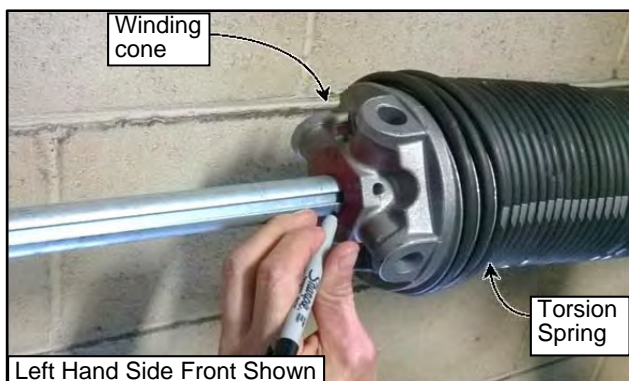

Figure 56
4. With the cables still tight on the drums & the Torsion Springs still mounted on the shaft, mark the drums and torsion shaft at each end with a file or a marking pen for reference during reassembly. (See Figure 56)